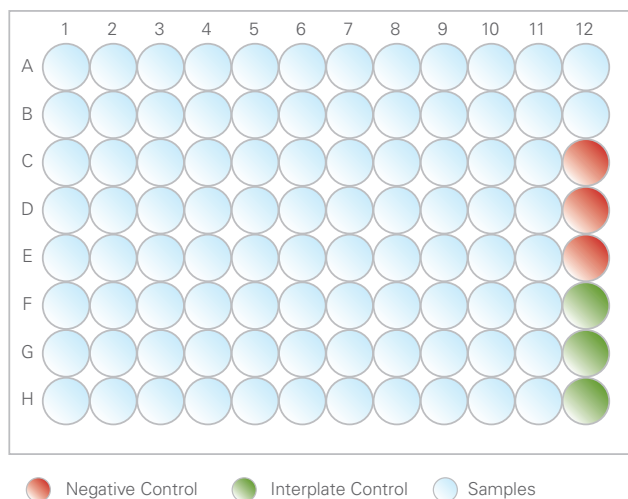

Fig 2. Plate layout.
Prior to running the Proseek Multiplex^{96x96} assay, plan the distribution of samples across the plate. It is important to place the Negative Control and the Interplate Control in the last 6 wells according to Figure 2. Proseek Multiplex^{96x96} kit is designed for 90 samples, three replicates of Negative Control and three replicates of Interplate Control. For analysis of less than 90 samples, please pipette replicates of selected samples.
- ▶ Use the 96-well plate template in Figure 2 and select a location for each sample.
8. Add 1 μL of Negative Control to the bottom of each well in position C12, D12 and E12 according to the plate layout in Figure 2.